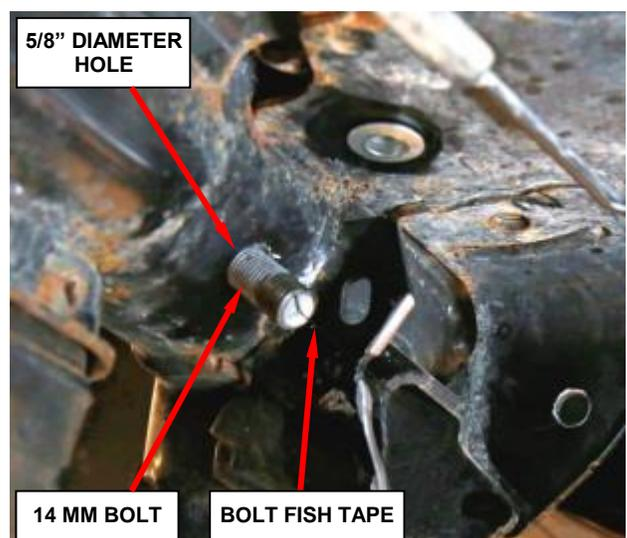

Figure 24 – 14 MM Bolt in 5/8” Diameter Hole Location
47. Carefully pull the “bolt fish tape” until the 14 mm bolt is seated in the 5/8” frame hole (Figure 24).